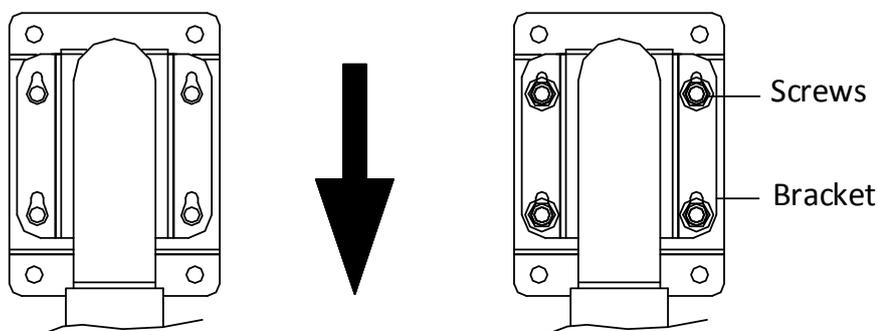

Figure 3-59 Fix the Installation Plate
6. Fix the installation plate and insert M10 \times 80 expansion screws into the screw holes, as shown in Figure 3-59.
3. Fix the installation plate and insert M10 \times 80 expansion screws into the screw holes, as shown in Figure 3-59.